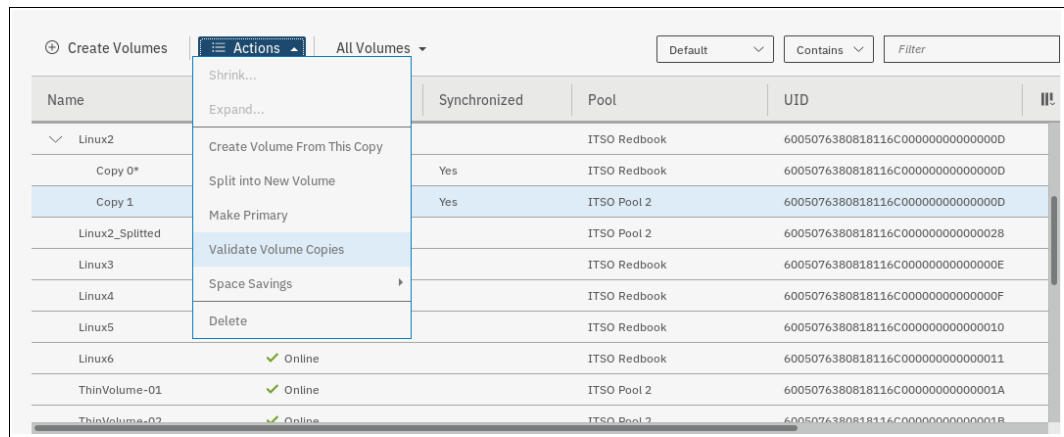

Figure 8-62 Actions menu: Validate Volume Copies
1. From the Actions menu, select **Validate Volume Copies**, as shown in Figure 8-62.